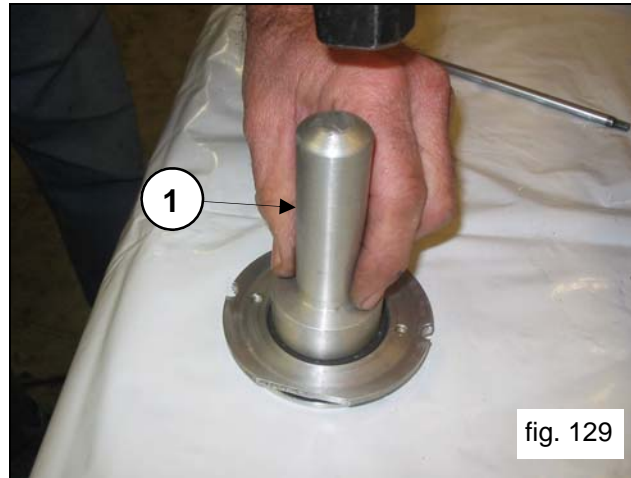

fig. 129
Insert the oil seal in its cover (pos. ①, fig.129) using a stopper cod.27910900.